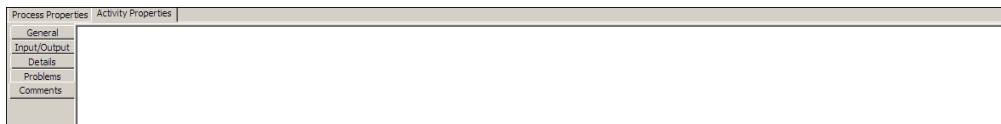

Figure 16: Comments Properties
1. Click **Comments** tab to display comments properties for the selected element (see Figure 16).